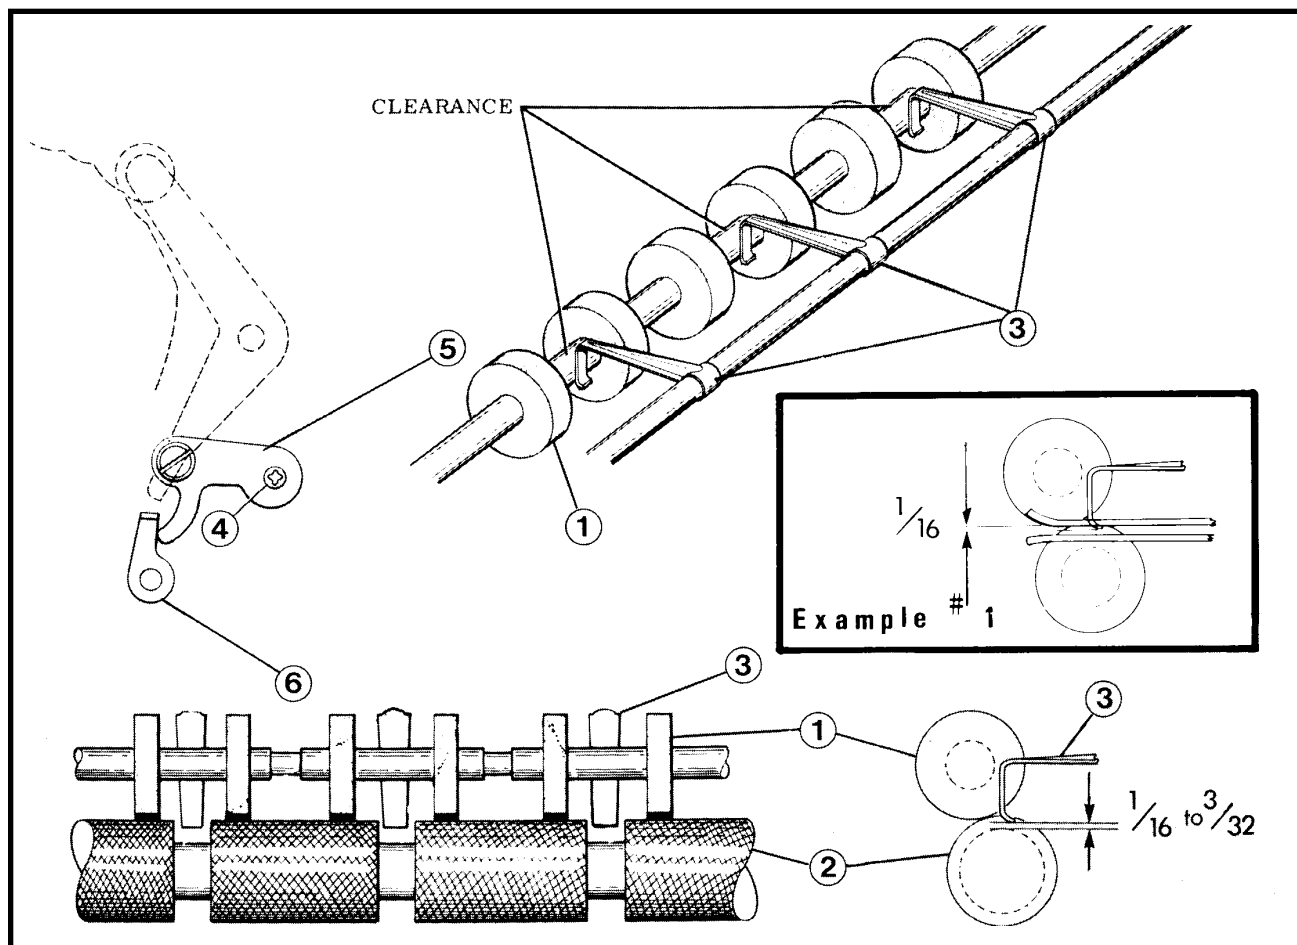

Figure 36 - Feeler Pin Adjustment
1. Lift feeler pins, turn handwheel until impression cylinder latch lever (item 14, Figure 26) is at its maximum forward position. Gently depress feeler pins. Align as shown in Example #1 (see Figure 36).
2. Turn handwheel until upper (1) and lower (2) forwarding rollers are in contact. Check that feeler pins (3) do not come in contact with upper forwarding roller (1) shaft. Form pins (3) with finger and thumb pressure, if necessary. To avoid marring pins (3), do not use tools.